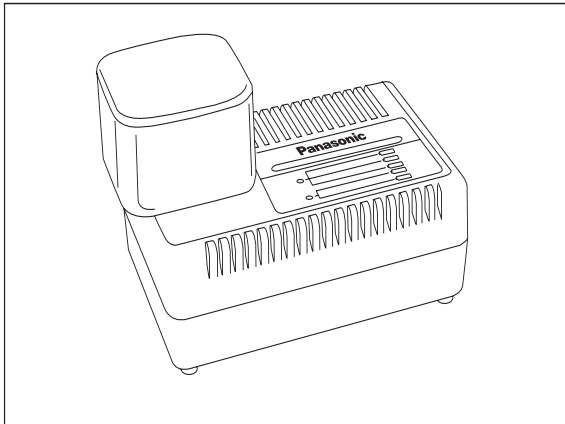
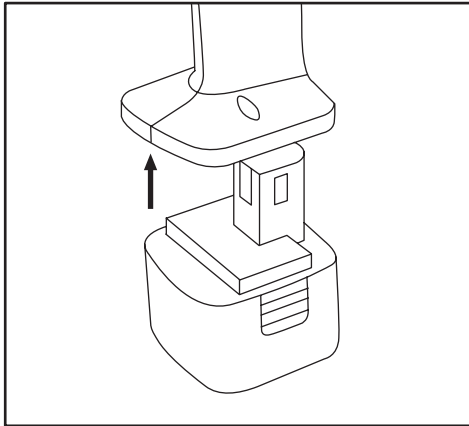

Figure 2-1. Charging the Battery
Figure 2-2. Inserting the Charged Battery
Your Camera is powered by a 12 V rechargeable Nickel-Cadmium (Ni-Cd) battery pack. When fully charged, the battery provides approximately 3 hours of continuous power. Battery charger use is shown in Figure 2-1 and battery placement in Figure 2-2.
3. Insert the battery as shown in Figure 2-1; the battery fits only one way.
To insert the battery, align the battery with the Camera handle shown in Figure 2-2. Firmly press the battery into the handle until it latches; the battery fits one way.